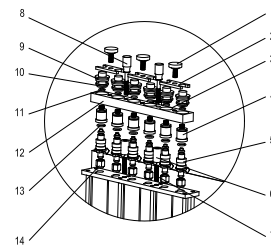

Fig. 07
- 4) Install the fuel distributor and the injector on the fuel distributor supporter with a proper adjustable screw and knurled nuts, and tighten two raffle screws (black). See Fig. 07.